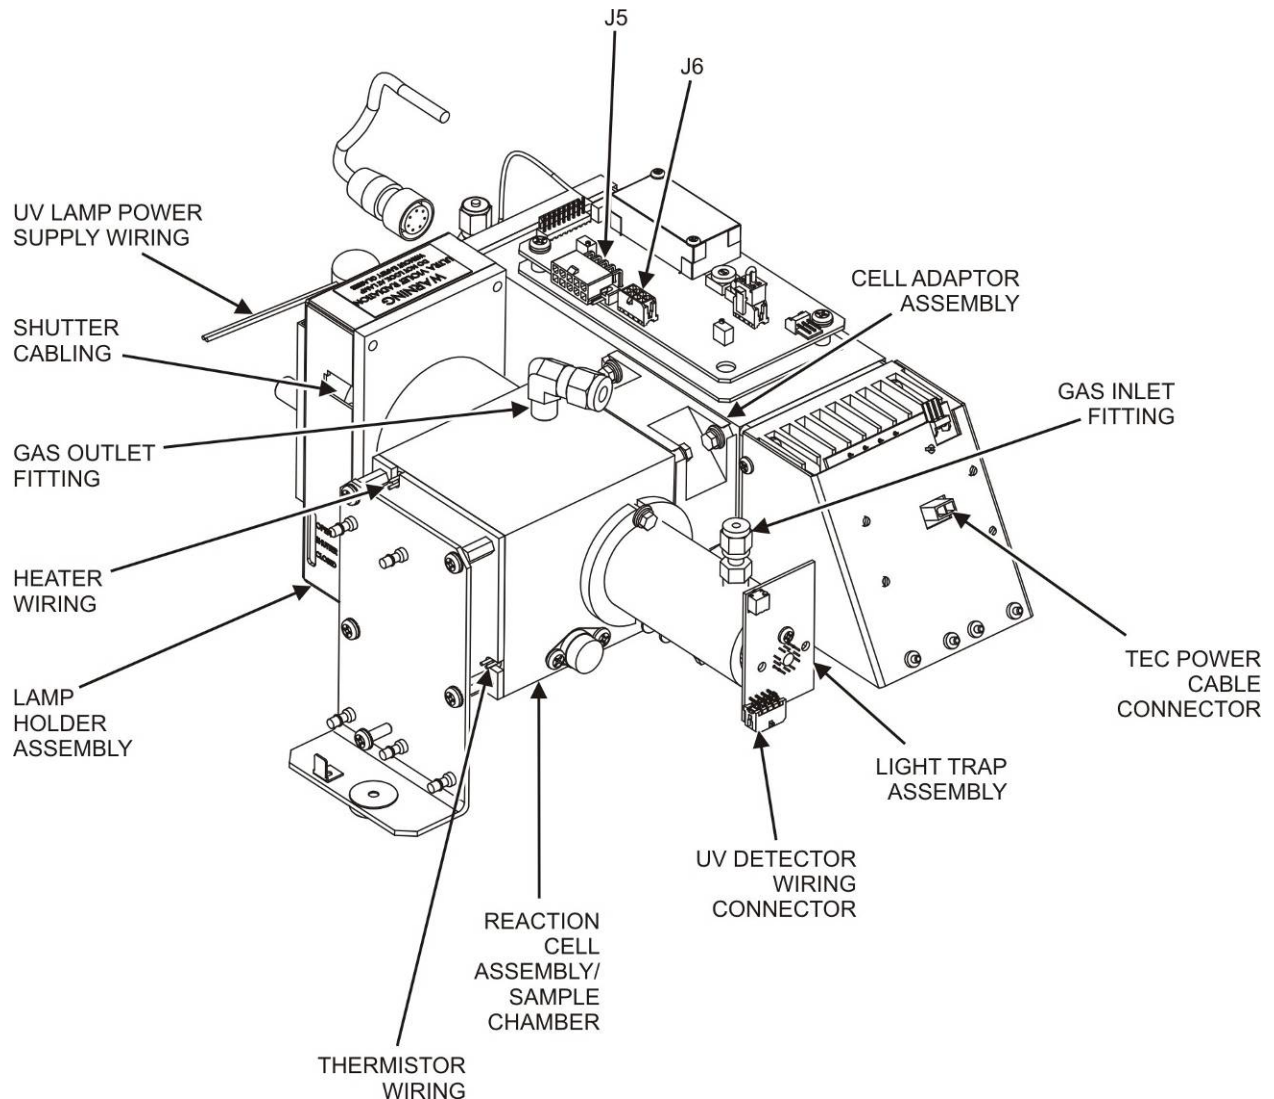

Figure 5-16. Sensor Module Wiring and Pneumatic Fittings
3. Disconnect the sensor module pneumatic lines (refer to Figure 5-16)